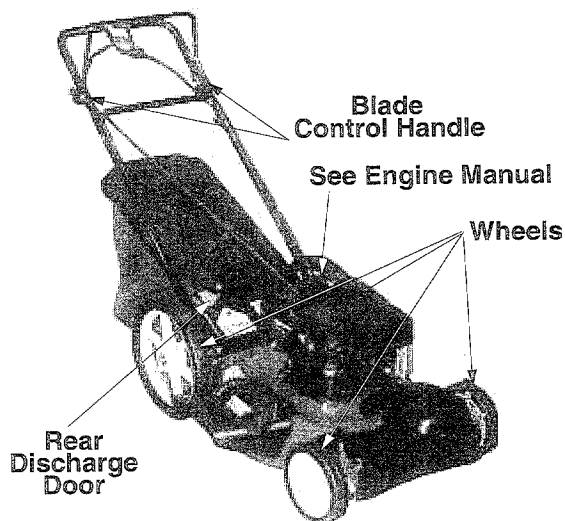

Figure 19
**Blade Control:** Lubricate the pivot points on the blade control handle and the brake cable at least once a season with light oil. See Figure 19. The blade control must operate freely in both directions.